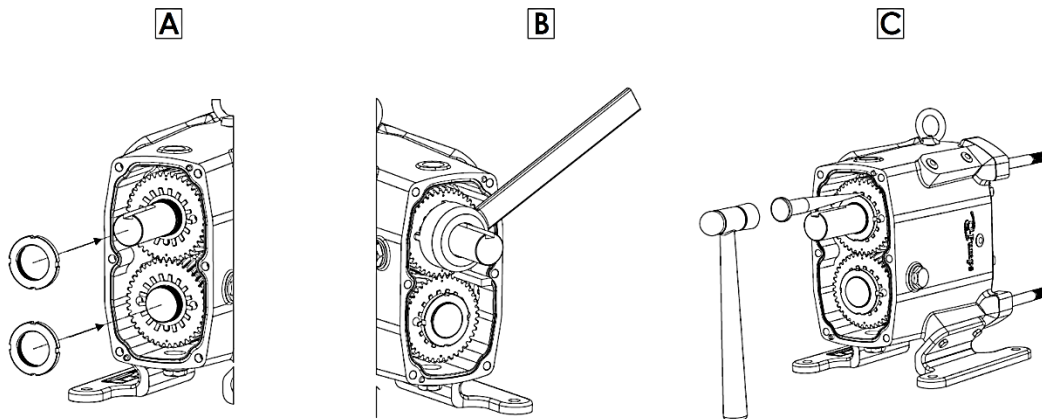

Figure 59: Gear Installation
11) Lubricate the threads of the lock nuts and thread them on the shafts (Figure 59 A). Using a spanner wrench, tighten them to the specified torque in Table 3. Use a wedge (wood or plastic) between the gear teeth to keep the shafts from turning while tightening the lock nuts (Figure 59, B). Secure the nut in place by bending the locking tabs on the lock washer into the lock nut slots (Figure 59, C).